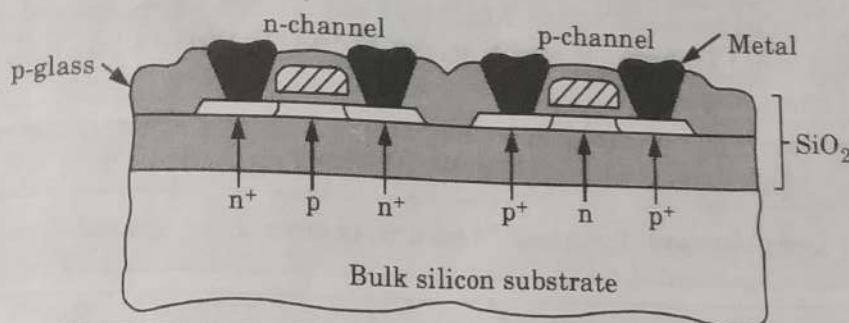

Fig. 2.10.1. Cross section of the silicon-on-insulator (SOI).
1. A schematic diagram of an SOI CMOS built on silicon dioxide is shown in Fig. 2.10.1.